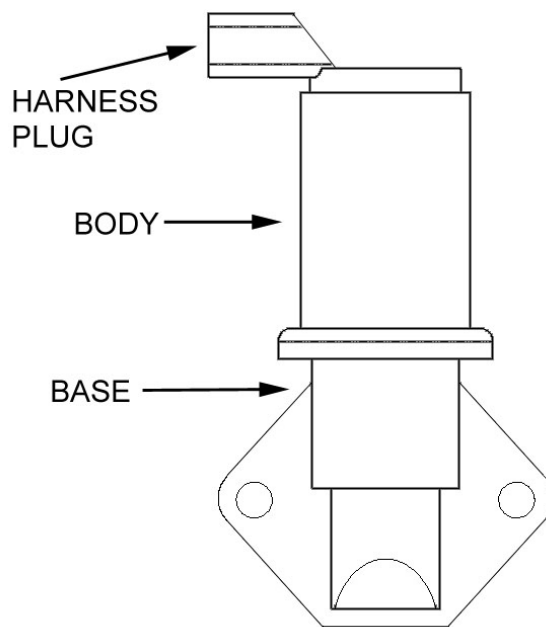

FIGURE 1
5. Place the base of the I.A.C. in a vise and use the channel lock style pliers, placed near the flange, to rotate the body of the I.A.C. until the harness plug is pointing in the opposite direction from stock, (180 degrees). SEE FIGURE 1